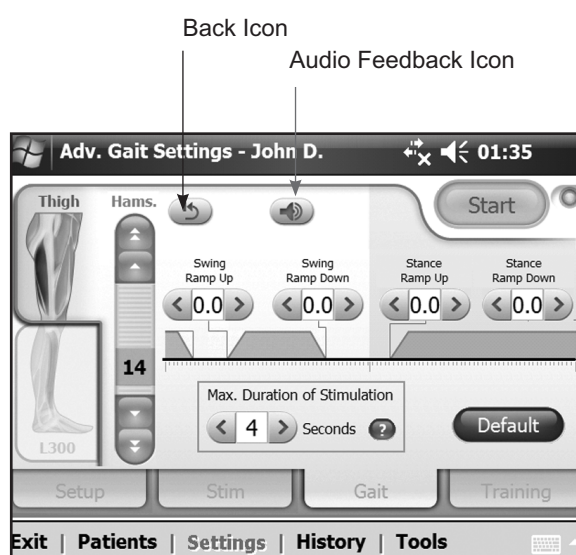

Figure 7-26: Advanced Gait Settings window, Thigh *Hamstrings*.
2. Adjust the maximum duration of stimulation. See Figure 7-26.